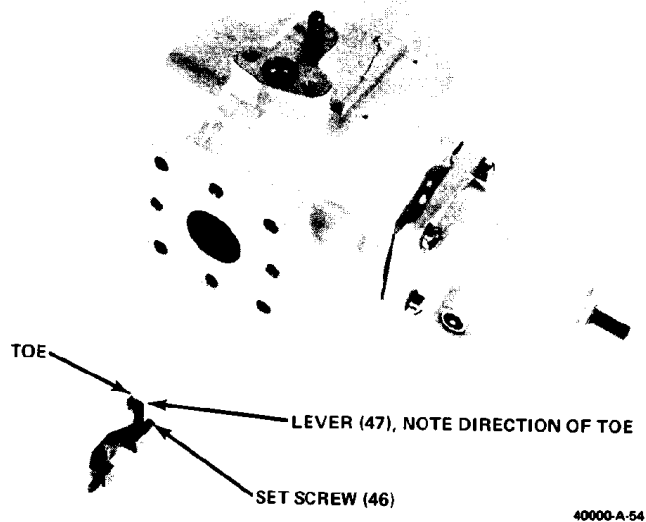

Figure 4-10. Assembly of Adjustable Limiter Lever
Insert toe of lever (47) with toe pointing downward, when the valve is setting with the diaphragm on top as shown in Figures 4-10 and 5-1.
26. Start roll pin (17) into input lever (16). Insert input shaft (12) into housing and at the same time place the input lever (16) into the housing, assembling it on the end of the input shaft. Secure the input shaft with retaining ring (10).
27. Insert fuel metering plunger (22), plunger spring (23), plunger guide (24), and O-ring (25) into the housing. Secure in place with screws (27) and washers (26).